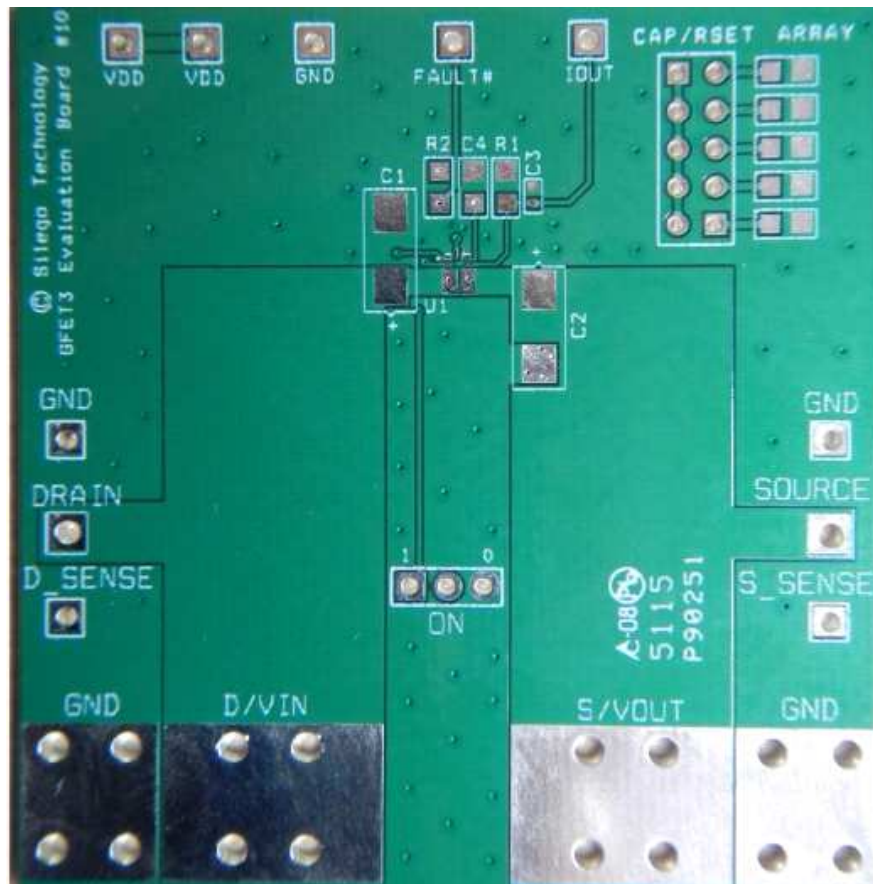

Figure 8. SLG59M1717V Evaluation Board
2. Since the VIN and VOUT pins dissipate most of the heat generated during high-load current operation, it is highly recommended to make power traces as short, direct, and wide as possible. A good practice is to make power traces with absolute minimum widths of 15 mils (0.381 mm) per Ampere. A representative layout, shown in Figure 8, illustrates proper techniques for heat to transfer as efficiently as possible out of the device;
A GreenFET Evaluation Board for SLG59M1717V is designed according to the statements above and is illustrated on Figure 8. Please note that evaluation board has D_Sense and S_Sense pads. They cannot carry high currents and dedicated only for RDS_{ON} evaluation.